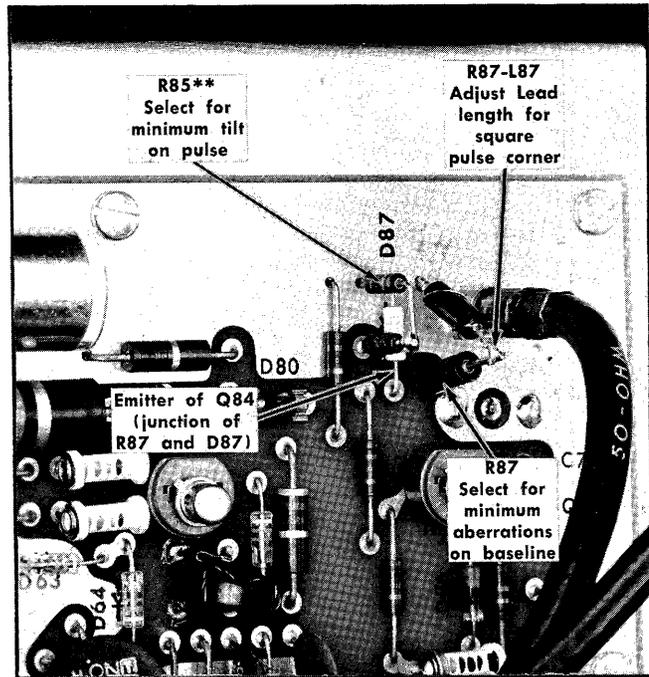

Fig. 5-7. Locations of R85** and R87 at output of avalanche circuit. See text for selection procedures.
- (1) Unsolder R85 from the circuit, using the precautions for etched wiring board soldering given in the Maintenance section. See Fig. 5-7 for the location of R85.
(1) Unsolder R87 from the circuit, using the precautions for etched wiring board soldering given in the Maintenance section. See Fig. 5-7 for the location of R87.
(2) Note the value of the resistor that was removed.
(3) Select one or two 1/2-watt resistors of a higher value and one or two of a lower value than the one removed. The general range of resistance values is from 39 to 100 ohms.
(4) Clip one end of each resistor to match the short end of the resistor that was removed.
(5) Place each of the selected resistors temporarily in the circuit and observe the change produced in the display. With the correct value of R87, the baseline following the pulse will be flat with no large irregularities.
(6) Solder the short end of the new R87 to the etched wiring board connection.
(7) Before soldering the second lead of R87, touch it to the lead of L87 and observe the pulse at an equivalent sweep rate of 5 nsec/div.
(8) Move the resistor lead to change its effective length in series with L87 until the squarest possible leading corner is obtained on the pulse with minimum aberrations on the top and the baseline following the pulse.
(9) When the correct lead length has been determined, clip off the excess lead length and solder the resistor to L87.
h. Move the tip of the vertical input probe to the emitter of Q84 (see Fig. 5-7).